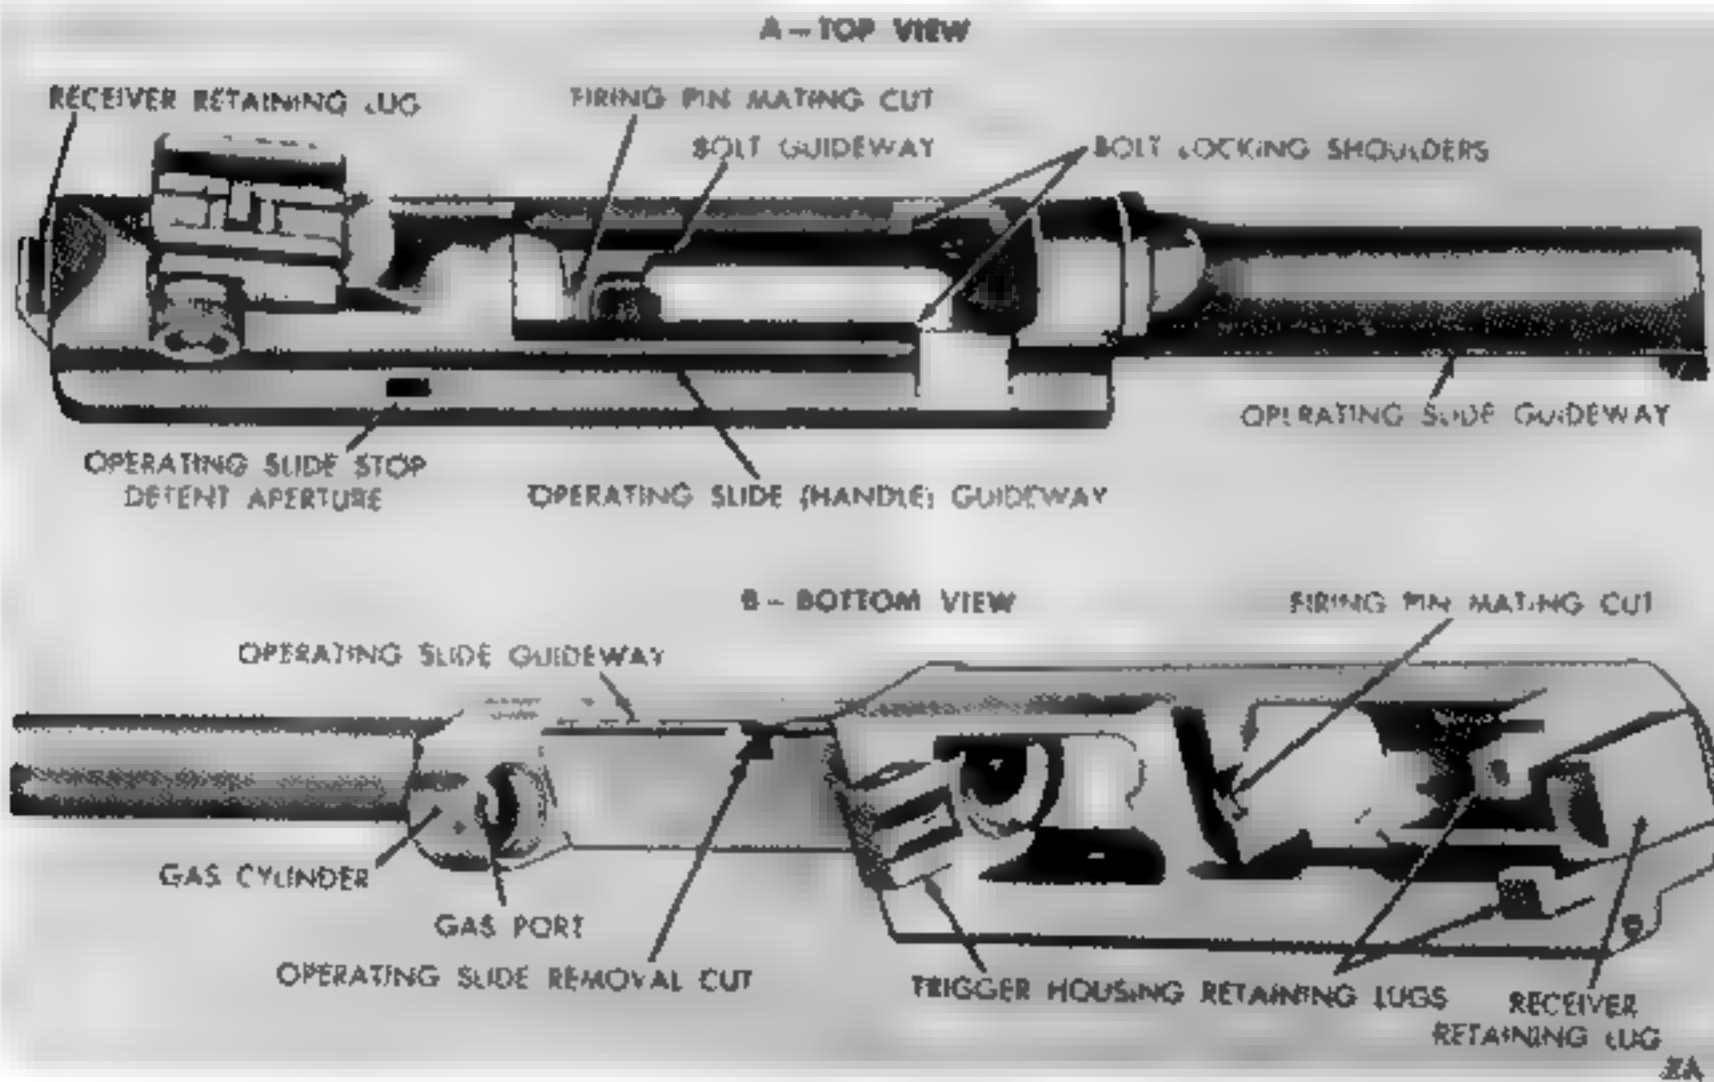

Figure 78. Barrel and receiver group — points of inspection.
- (1) Inspect operating slide spring well for rust or foreign matter. Visually inspect receiver for break-through of the operating slide spring hole. This break-through occurred in the original manufacture of some receivers because of the drill running out through either the bottom or right-hand exterior surfaces. If the forward end of the break-through is 3 inches or more from the front end of the receiver, it is acceptable; otherwise, it must be rejected (DEPOT MAINTENANCE ONLY). Any sharp or feather edges around this break-through are to be removed.
- (2) Inspect receiver under "black light" (Magnaglo or approved equal) for cracks in the area around the bolt locking slot at the right hand side and at the front and rear trigger housing retaining lugs (DEPOT MAINTENANCE ONLY). Receivers having cracks extending in both directions around a corner must be rejected.
- (3) Visually inspect condition of firing pin retracting cam mating cut in the bridge of receiver (Fig. 78). This cam was cut to an angle of 33 degrees in the earlier manufacture of receivers and later to 45 degrees. Both are acceptable if in good condition.
- (4) Visually inspect trigger housing retaining pinhole in the receiver. If out-of-roundness is apparent, reject the receiver (DEPOT MAINTENANCE ONLY).
- (5) Inspect the bullet ramp in the receiver to assure it is clean and smooth for proper feeding of the ammunition. Burrs and sharp edges should be removed by careful polishing with fine emery cloth. The lower edge of the
- (6) Inspect receiver for looseness with barrel, deformation, rust and burrs. If receiver is disassembled from barrel, inspect for worn or crossed threads in barrel aperture (DEPOT MAINTENANCE ONLY).
- (7) Inspect bolt guideway and locking shoulders for wear, burrs, cracks, and foreign matter. Inspect receiver retaining lug on rear end (Figs 78 and 104) for wear, burrs, and looseness with recoil plate when assembled to stock.
- (8) Inspect operating slide guideway on right side for wear, burrs, and foreign matter, and operating slide removal cut for wear and burrs. Inspect operating slide stop detent aperture for wear, burrs, and foreign matter. Forward surface of aperture should be at a sharp right angle to receiver, and with a clean edge to facilitate retention of stop, and rear face smooth and sloping to facilitate camming. Inspect the rear inside face of receiver for foreign matter.
- (1) The muzzle of all barrels must be counterbored (Fig. 78) during rebuild to remove tool marks, nicks,